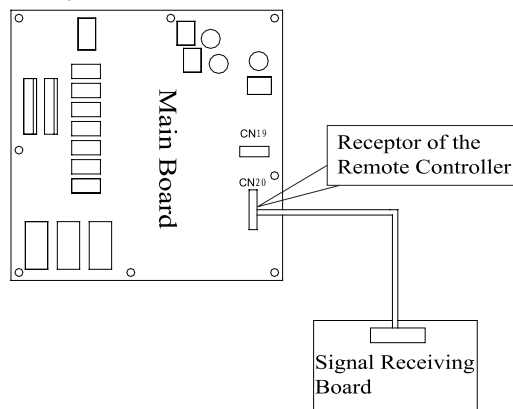

Fig.18 Connection between the Main Board and the Signal Receiving Board
- (1) Let the flare end of the tube pipe point at the screw and then tighten the screw by hand.
- (2) After that, tighten the screw by the torque wrench unit it clatters (as shown in Fig. 18)
When the receptor of the remote controller is used, the setting of the DIP switch 2 should be “1” and its connection is shown as Fig.18.